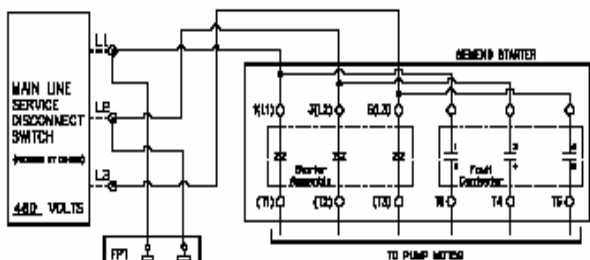

Figure 1-4
- An independent, emergency backed, single-phase 120 VAC circuit is common to all group installations (for the first controller of each group only). [See Figure 1-4.]
- The 3-phase mainline power circuit is common to all starter types. The power may connect directly into solid state starter on the controller. Otherwise, the power may connect to the overload side of a wye-delta starter on the controller [See Figure 1-4 & 1-5].